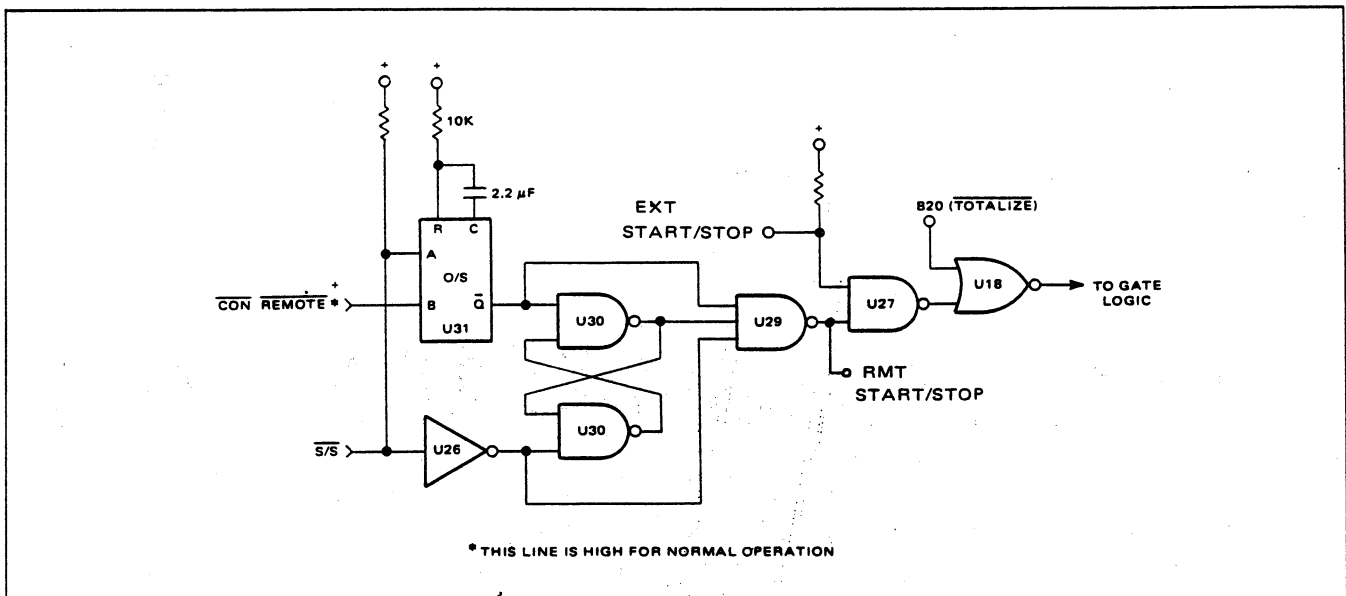

Figure 4.31 - Start/Stop Circuit
4.4.9.12.1 The circuitry is shown in figure 4.31. B20 is low, EXT gate is open (high), and REMOTE is high. The S/S switch is normally open causing the output of U26 to be low which causes the output of the F/F to be low and U29 output to be high. This is double inverted through U27 and U18 as a high level to the gate logic.